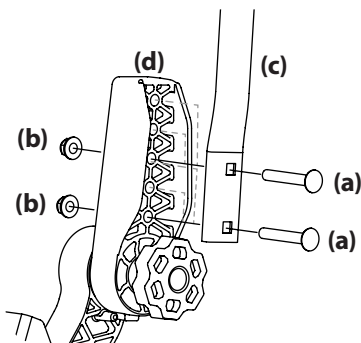

Figure 12
1. Remove the two carriage screws (a) and two flange lock nuts (b) that secure the lapbar drive control lever (c) to the upper handle adjuster (d). See Figure 12.
2. Move the lapbar drive control lever into one of the three available heights and secure in place with the carriage screws and flange lock nuts. See Figure 12.
4. If the lapbars do not line up after making the knob adjustment, loosen nuts (b), align lapbars and retighten nuts. Once this fine adjustment is made, the lapbars will align when using the knob adjustment. See Figure 12.